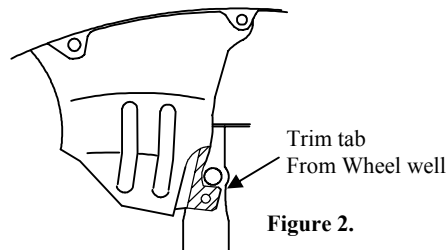
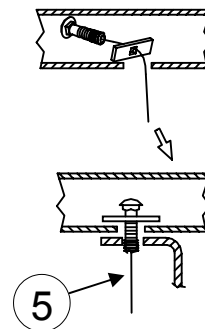

Figure 2.
Figure 3.
①	Qty. (4)	Carriage Bolt 7/16-14 x 1.50 GR5	④	Qty. (4)	Hex Nut 7/16-14
②	Qty. (4)	Spacer 3/16" x 1 x 2	⑤	Qty. (4)	Pull wire, 7/16
③	Qty. (4)	Conical Toothed Washer 7/16"
- Remove the retainer holding the wheel well tab to bottom of frame rail on driver's side. Trim wheel well tab so that the hitch side bracket will sit flush against the bottom of frame rail. See figure 2.
- Cut a key hole notch in the rearmost hole in frame, both sides, so that the 1" wide spacer (item 2) will fit inside the frame rail.
- For the rearmost hole, fishwire the carriage bolts and spacer blocks into the rear hole and back down through hole. See figure 3.